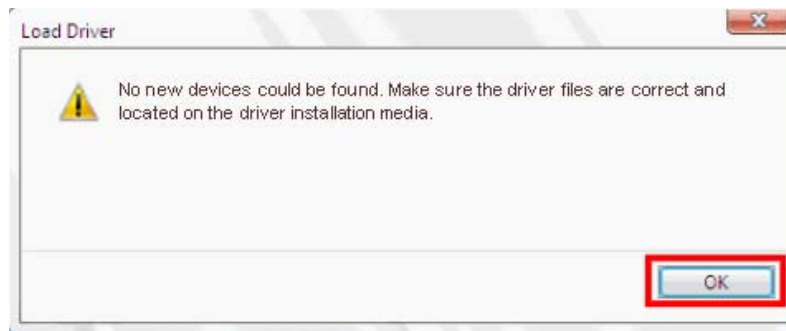

Figure 6-28: Confirm the Driver File
Step 5: Click **OK** to continue (Figure 6-28).